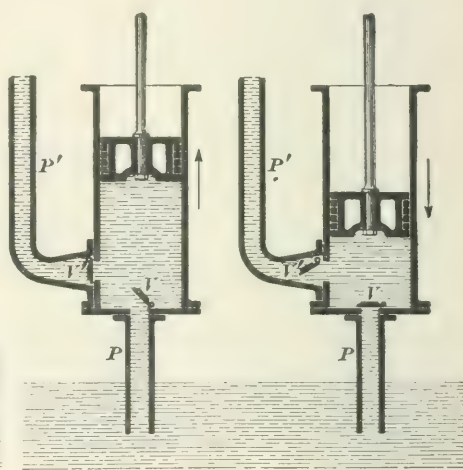

FIG. 27.
73. Force Pumps.—The force pump differs from the lifting pump in one important particular, that is, in the fact that its piston is solid. A section of a force pump is shown in Fig. 27. As the piston ascends, as shown in the left-hand figure, the pressure of the atmosphere forces the water up the suction pipe P ; the water opens the suction valve V and flows into the pump cylinder. When the piston moves down, as shown in the right-hand figure, the suction valve is closed and the delivery valve V' opened. The water in the pump cylinder is now forced up the delivery pipe P' . When the piston again begins to move upwards, the delivery valve is closed by the water above it and the suction valve opened by the pressure of the atmosphere on the water below it.